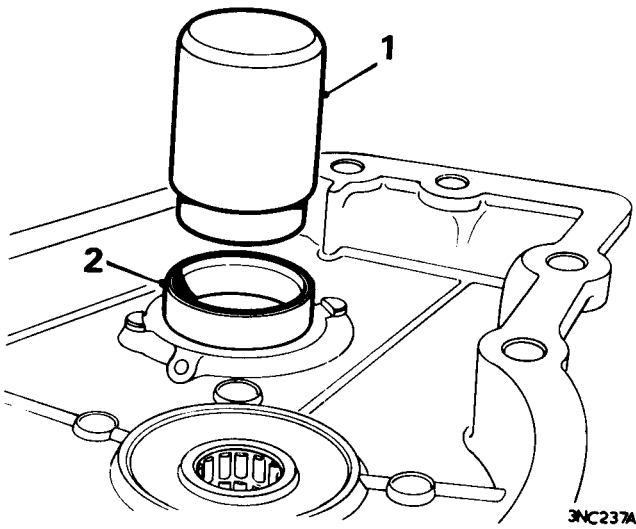

Fig. F.25
49. Use the 'replacer' of tool 18G 617A and drift the first motion shaft spigot bearing outer race into the flywheel housing, Fig. F.25.